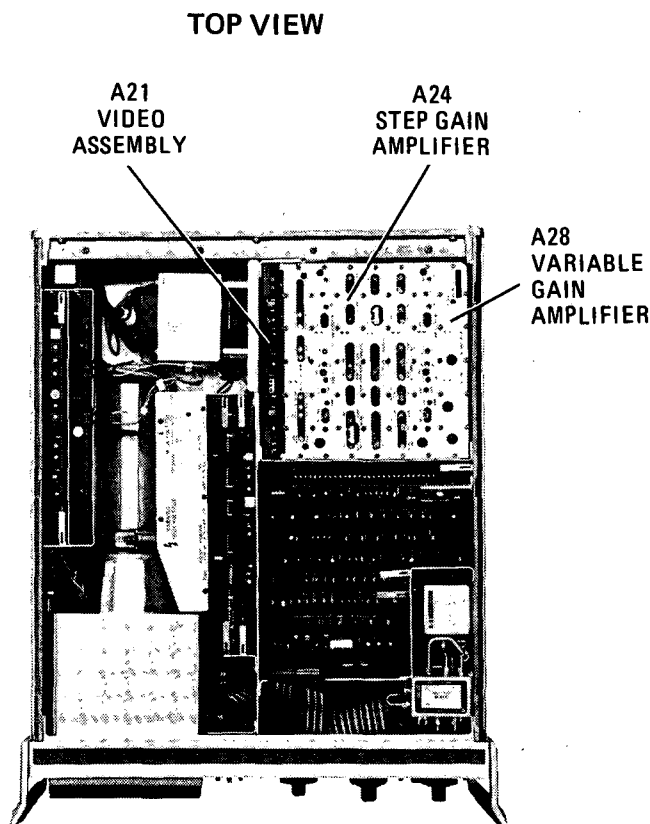

Figure 5-23. Step Gain Adjustment Locations
7. Adjust A24R6 -12 dB (Figure 5-23) clockwise until trace stops rising. Then adjust A24R6 counterclockwise to set signal level 0.4 division below maximum.